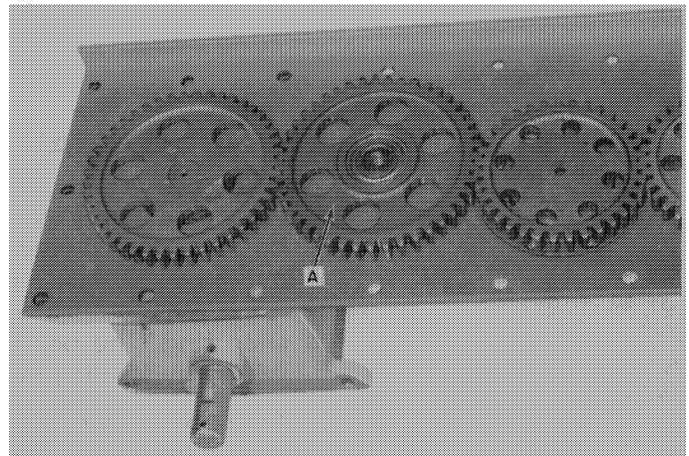

FIGURE 11
7. The large idler A, Figure 11, does not have holes provided for bolts to remove it. Use pry bars to remove idler from shaft.